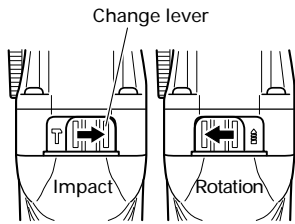

Fig. 9
8. IMPACT to ROTATION changeover (Fig. 9)